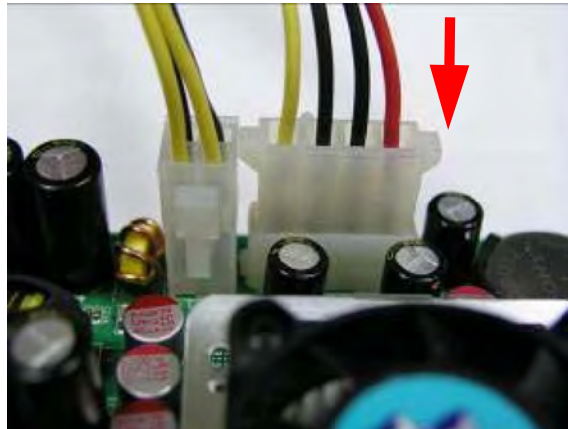

Figure 5-8
Step 1: Please connect 4 pins power to J26 in order to make system stand-alone and 12V Power to CPU supplementary Power Connector (J28) (See Figure 5-8)